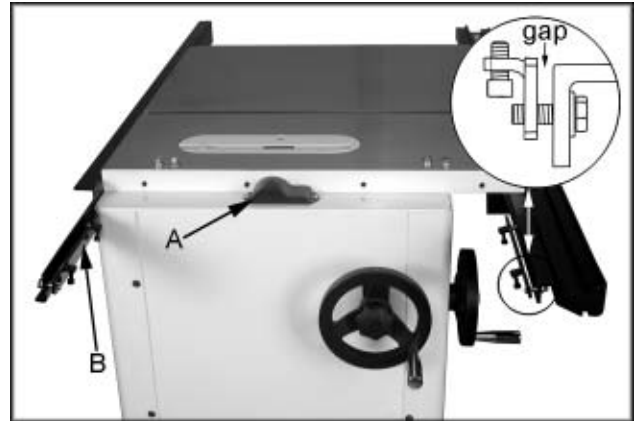

Fig. 12
- **Hardware:** Sliding Table, (4) M8x25 Hex Head Bolts, (4) M8 Hex Nuts, (8) Flat Washers, (4) Lock Washers, (4) M6x20 Socket Head Cap Screws, (2) Flat Shims & (2) 90° Shims
- **Tools:** Straight Edge, (2) 13mm Wrenches, 5mm Hex Wrench
1. The arbor pulley guard (A, Fig. 12) should be attached to the saw cabinet when using the sliding table.
2. Mount two leveling brackets (B, Fig. 12) to the front and rear fence with four M8x25 bolts and four M8 flat washers. Leave loose at this time.
3. You need to leave a gap between rails and the brackets so that you can set the sliding table in position, see Figure 12.